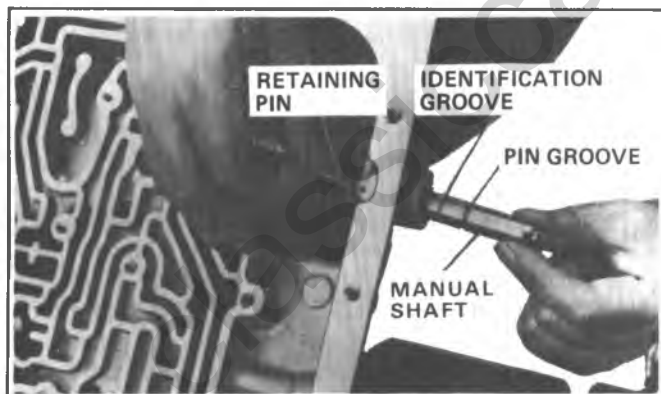

Figure 7A1-67 Installing Manual Shaft into Case
3. Position speedometer gear, larger chamfered inside diameter first, over rear end of output shaft. (Figure 7A1-71).